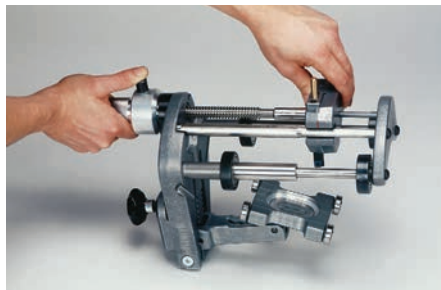

fig. 5
- Final adjustments of the position of the blade casing (4) takes place by rotating the roller handle (1) until the marked line on the blade casing (7) is flush with the selected dimension range on the guide rod (7) (fig. 5).
- Scraper tool must be guided across the pipe in such a way that the clamping carriage (4) is situated inside the pipe and the scraper blade (2) is on the pipe surface (fig. 5). The front plate (3) must be flush with the front edge of the pipe.